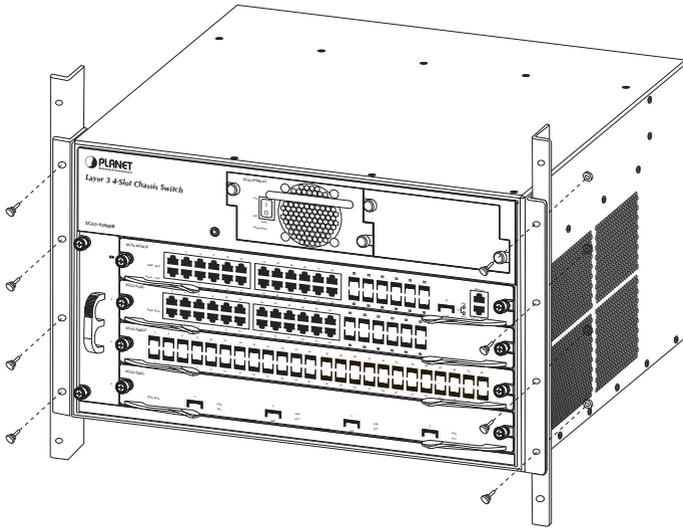

Figure 3-2 Mounting the XGS3-42000R in a Rack
Step5 After the brackets are attached to the XGS3-42000R, use suitable screws to securely attach the brackets to the rack, as shown in Figure 3-2.